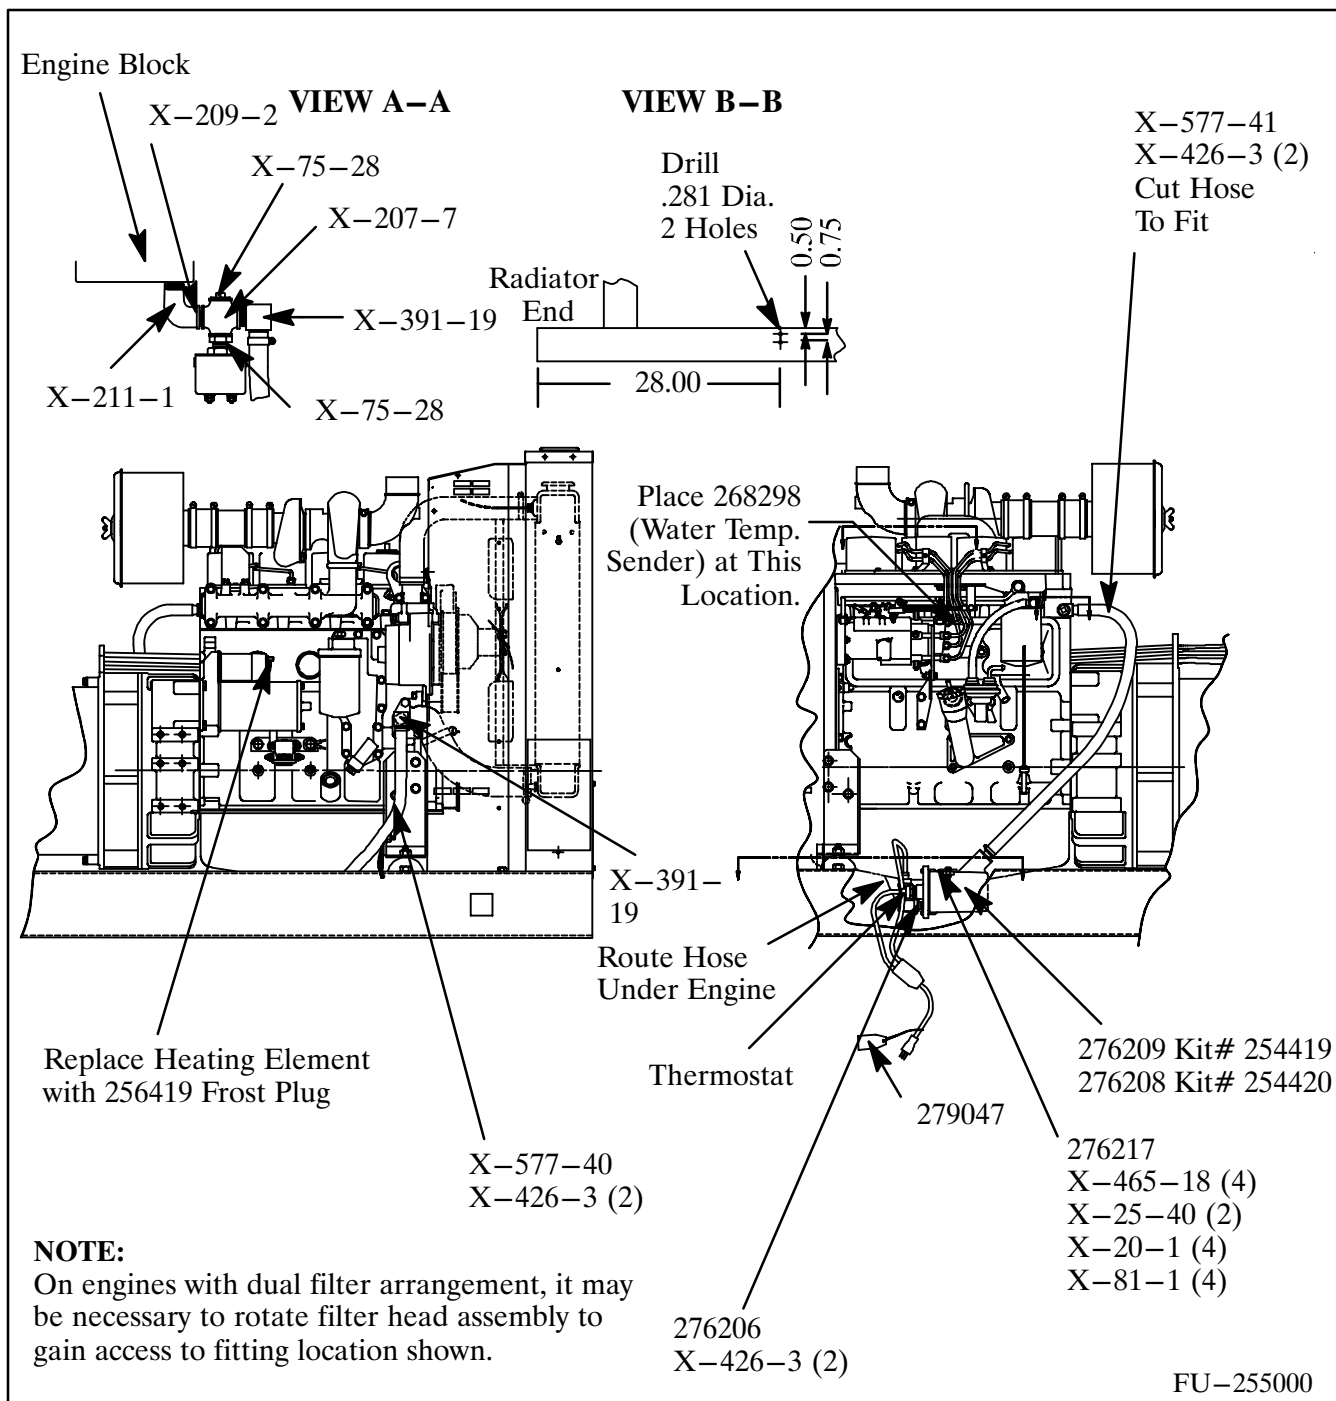

Figure 1. Block Heater Installation (Tank-Type)
4. Remove heating element from engine. Replace heating element with frost plug (256419). See Figure 1 for location.
5. Remove water temperature sender (268298) and reposition at location shown on Figure 1.
6. Install street elbow (X-211-1), pipe nipple (X-209-2), pipe cross (X-207-7), pipe plugs (X-75-28) on top and bottom of pipe cross, and hose elbow connector (X-391-19) into block where thermostat was located. See Figure 1. View A-A.
Early generator sets may not have pre-drilled holes in engine skid. Use bracket as a template and drill two 0.281 dia. holes. Locate holes 28 inches from radiator end of generator. Drill first hole 0.50 inches on skid. Drill second hole 1.25 inches. See Figure 1 (View B-B).
12. Remove 1/2 in. pipe plug or temperature switch from right side of engine at water pump inlet casting. Install hose elbow connector (X-391-19) at this location. See Figure 1.